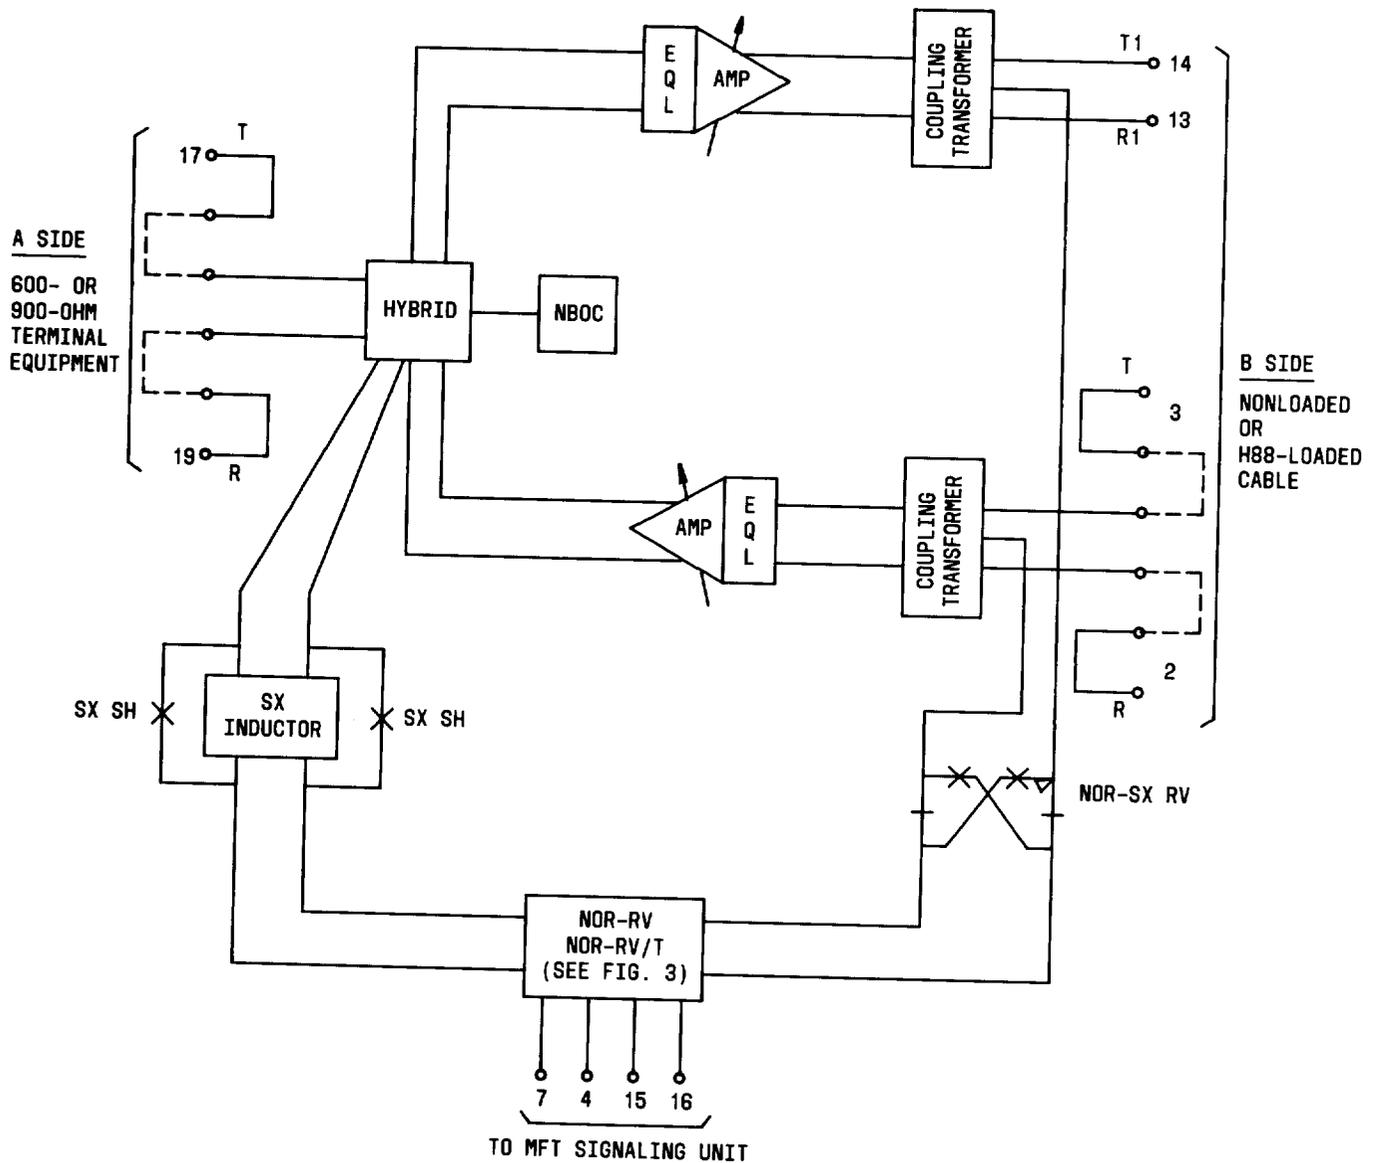
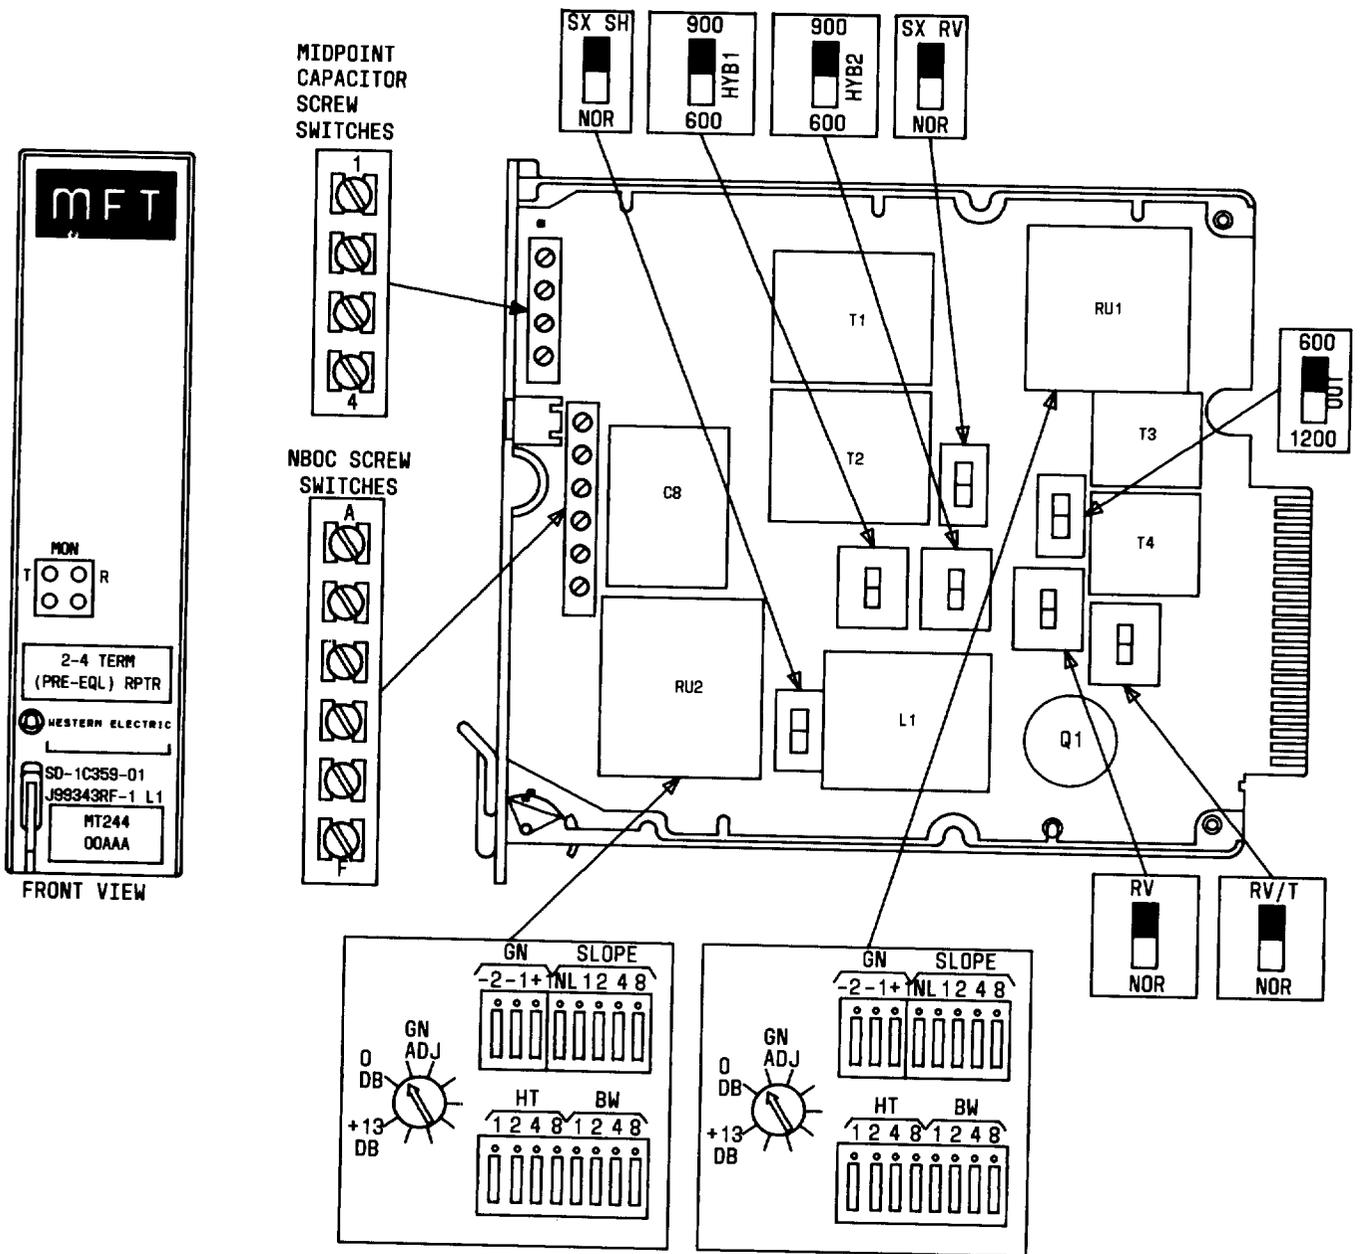
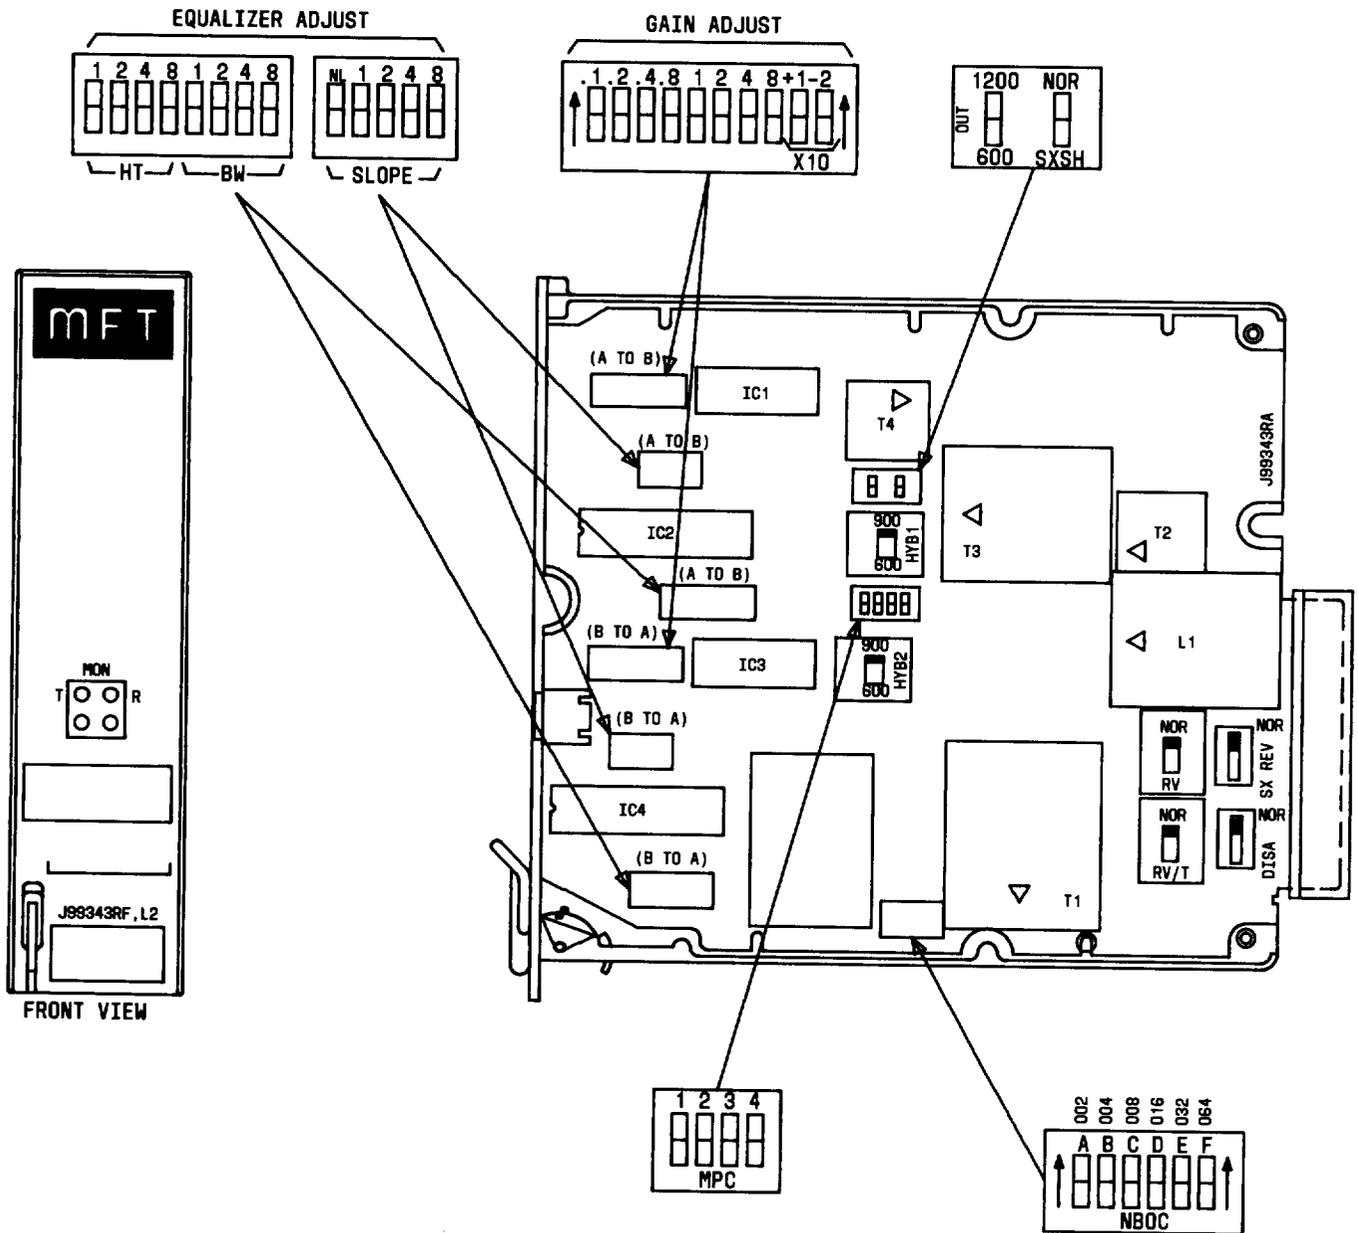

Fig. 5—Block Diagram of J99343RF
Fig. 6—J99343RF, List 1 Repeater
Fig. 7—J99343RF, List 2 Repeater
4.01 The J99343RF, List 1, is shown in Fig. 6. It provides gain between loaded or nonloaded 4-wire facilities and 600- or 900-ohm 2-wire terminal equipment. Equalization is provided in both directions of transmission. Figure 5 is a block diagram of this unit.
4.08 In the following paragraphs, the rocker-type switches for a particular function are operated when depressed toward the respective designation. The sum of the values of the switches operated is the setting for that function. The unit controls are illustrated in Fig. 6.
5.01 The J99343RF, List 2, is shown in Fig. 7. It provides gain between loaded or nonloaded 4-wire facilities and 600- or 900-ohm 2-wire terminal equipment. Equalization is provided in both directions of transmission. Figure 5 is a block diagram of this unit.
5.09 In the following paragraphs, the rocker-type switches for a particular function are operated when depressed toward the respective designation. The sum of the values of the switches operated is the setting for that function. The unit controls are illustrated in Fig. 7.